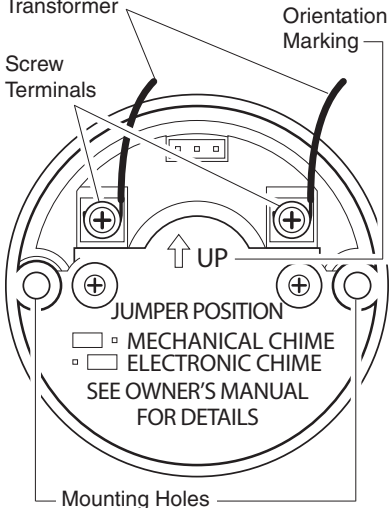

Figure 1 - Attach Chime Wires to Pushbutton (Back of Pushbutton Shown)
1. Attach the two wires from your chime and transformer to the screw terminals on the back of your pushbutton (see Figure 1). Press pushbutton to test function.